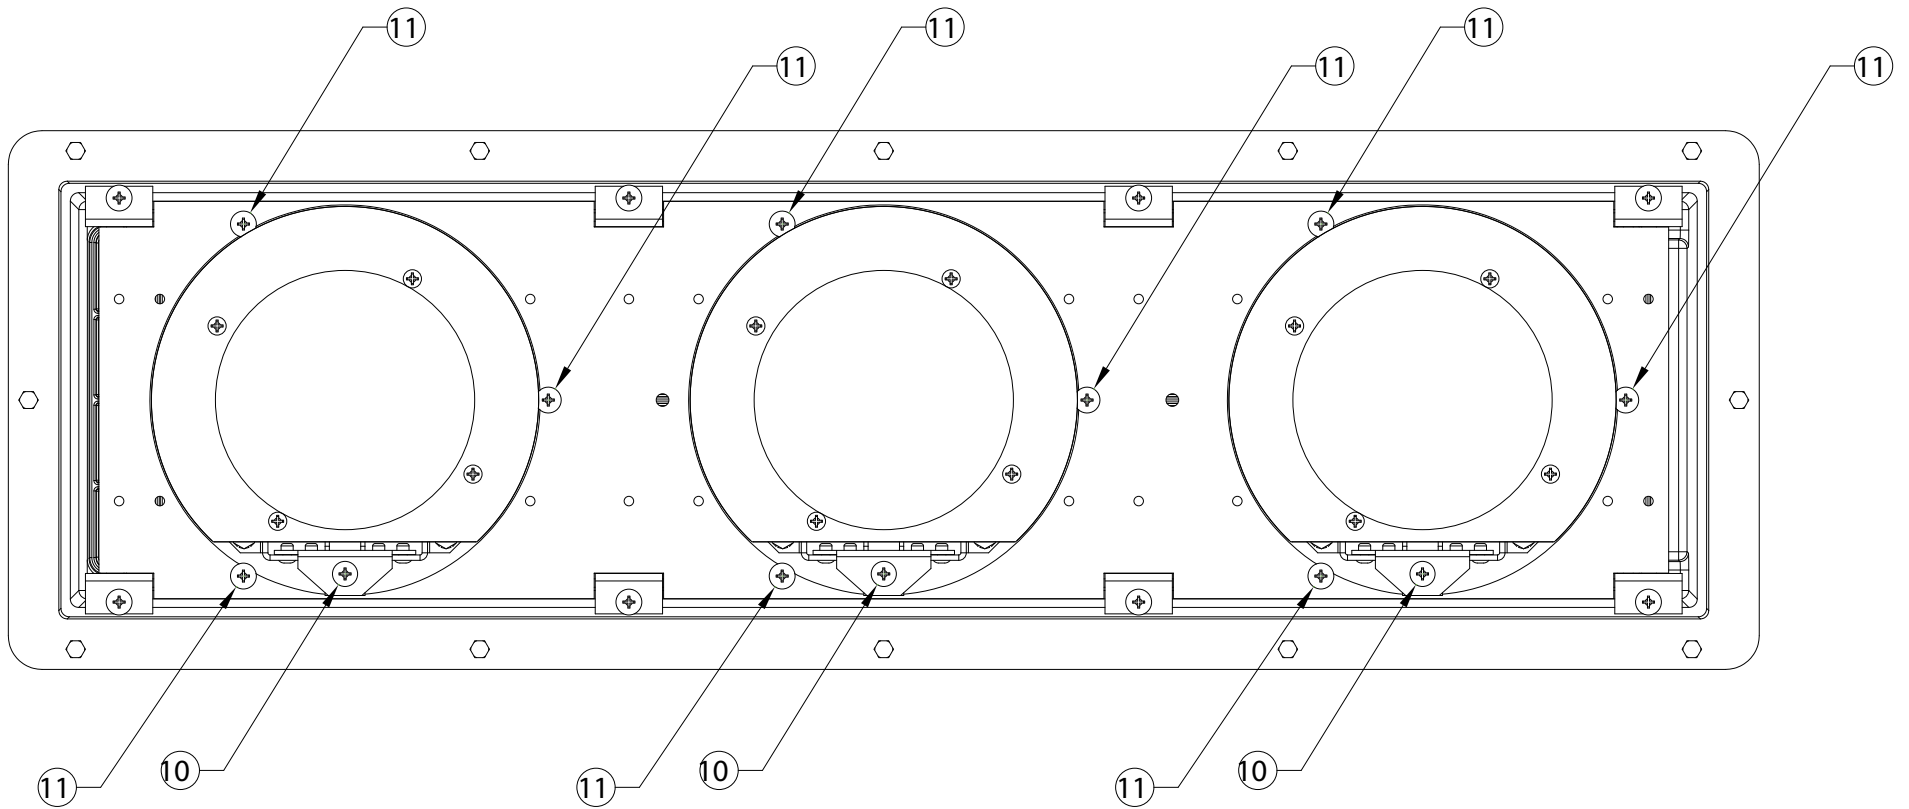

FIGURE 5
16. Re-connect cables ⑦.
18. Re-install screws ②.
19. To rotate LEDs loosen screws ⑪, see figure 5. Make necessary adjustment and re-tighten screws. Warning: Check cables ⑦ as adjustments are being made. Cables may need to be repositioned slightly. Make sure cables are clear of fan blades.
20. To tilt LEDs turn aiming screw ⑩. Warning: if using a power screwdriver or drill to turn aiming screw, the clutch must be set on the lowest setting. Do not use power tools without a clutch feature. Damage to the aiming screw will result.